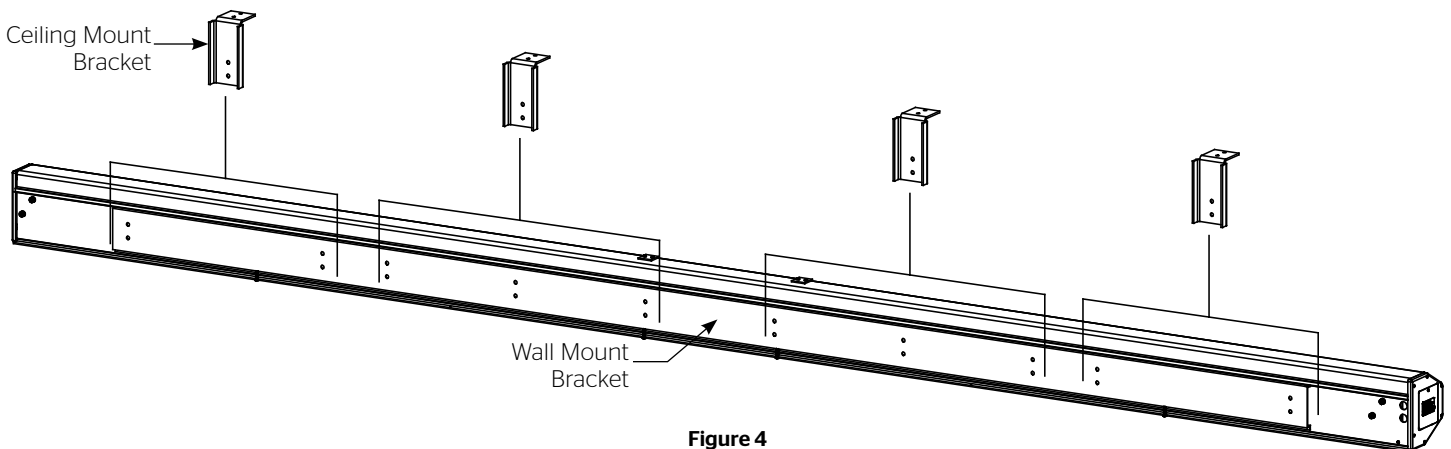

Figure 4
2. The ceiling brackets are pre-attached to the wall mount bracket using 5/16" x 3/4" bolts, washers and nuts. The brackets can be adjusted within the ranges shown in figure 4.